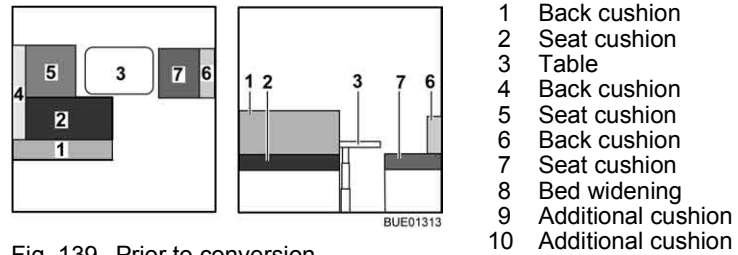

Fig. 139 Prior to conversion
- Convert the table (Fig. 139,3) to a bed foundation (see section 6.10).
- Remove the back cushions (Fig. 139,1, 4 and 6) and lay them aside.